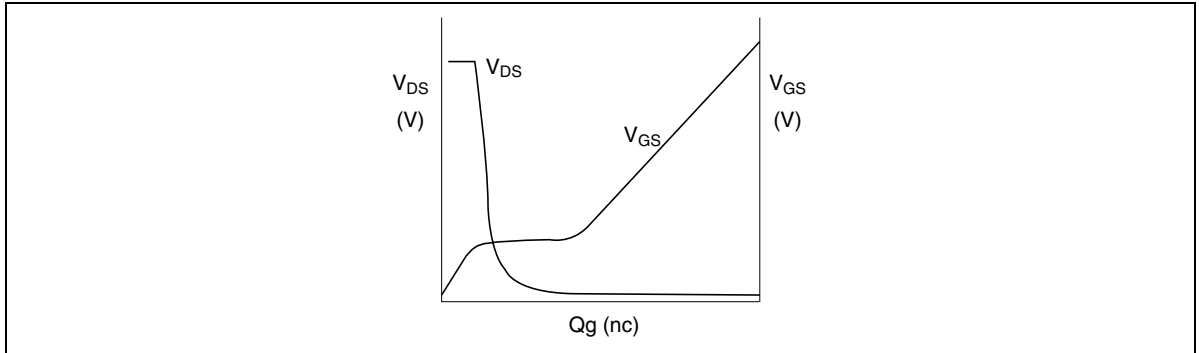

Figure 4.2 Power MOS FET Dynamic Input Characteristics
At this time, the power that should be supplied from the IC to the power MOS FET is determined by gate load Qg in Figure 4.2.
2. IC Heat-Emission Power Calculation (Figure 4.2)
Qg : Gate charge according to Figure 4.2